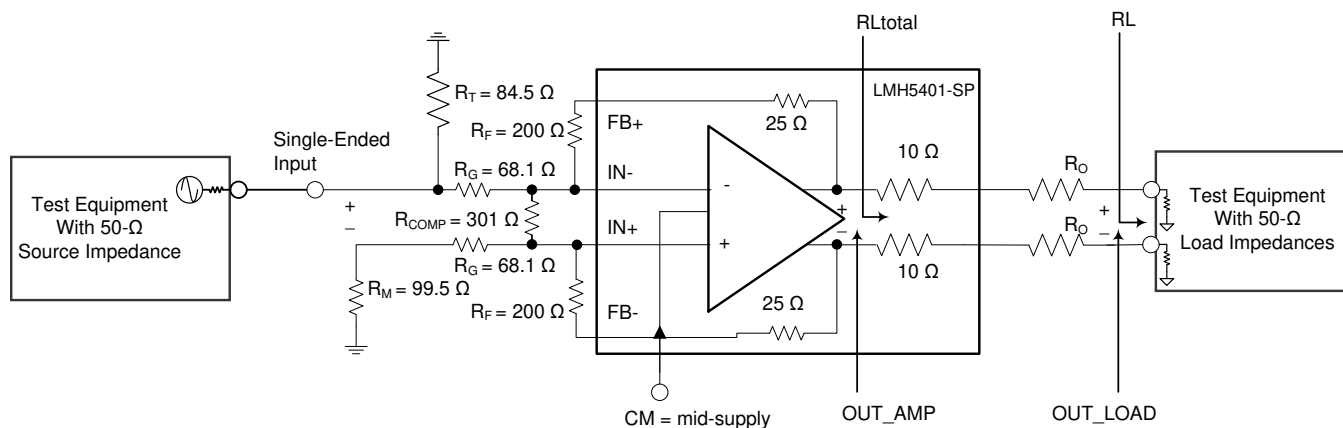
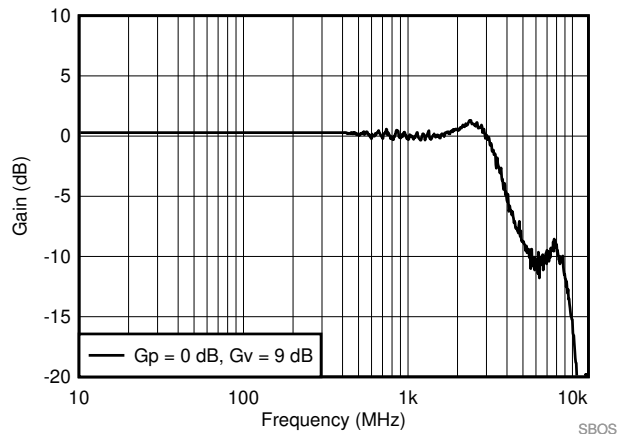

Figure 61. Noise Gain Compensation for Stability at $G_p = 0$ dB
FIG 62. SE-DE Small Signal Frequency Response for Low Gain
Two types of gain are associated with amplifiers: noise gain (NG) and signal gain. Noise gain determines the stability of an amplifier. The noise gain is the inverse of the voltage divider from the outputs back to the differential inputs. This gain is calculated by $NG = (R_F / R_{IN}) + 1$. For the LMH5401-SP, $NG > 4$ creates a stable circuit independent on how the signal gain is set. In Figure 61, for optimal performance choose R_F within the values noted in this document (see the Parameter Measurement Information section for further information). Using too large of a resistance in the feedback path adds noise and can possibly have a negative affect on bandwidth, depending on the parasitic capacitance of the board; too low of a resistance can load the output, thus affecting distortion performance. When low signal gain stability is needed, the noise gain can be altered with the addition of a resistor, R_{comp} . By manipulating the noise gain with this addition, the amplifier can be stabilized at lower signal gains. In Figure 61, R_S and R_{comp} in parallel combination also affects the noise gain of the amplifier. R_G and R_F are the main gain-setting resistors and the addition of R_{comp} adjusts the noise gain for stability. Much of this stability can be simulated using the LMH5401-SP TINA model, depending on the amplifier configuration. The example in Figure 61 uses the LMH5401-SP, a signal gain of 2.8 V/V, and a noise gain of 4.75 V/V resulting in the frequency response shown in Figure 62.